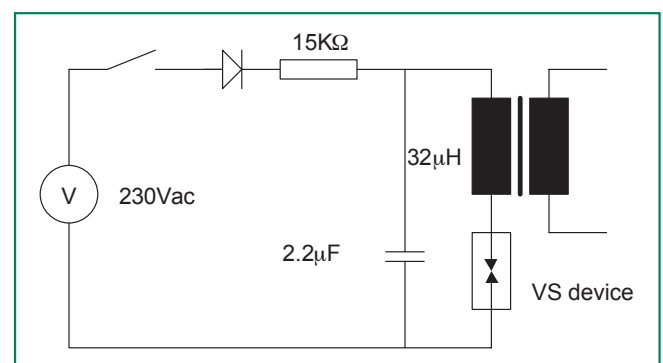

Fig 2. Recommended Life Test Circuit
- (2) Measured @ 300 Volts DC
- (3) Current required for transition to on-state
- (4) Measured @ 1 MHz, zero Volt bias
- (5) Using 8/20µs double exponential pulse
- (6) Measured on recommended test circuit (fig 2.)